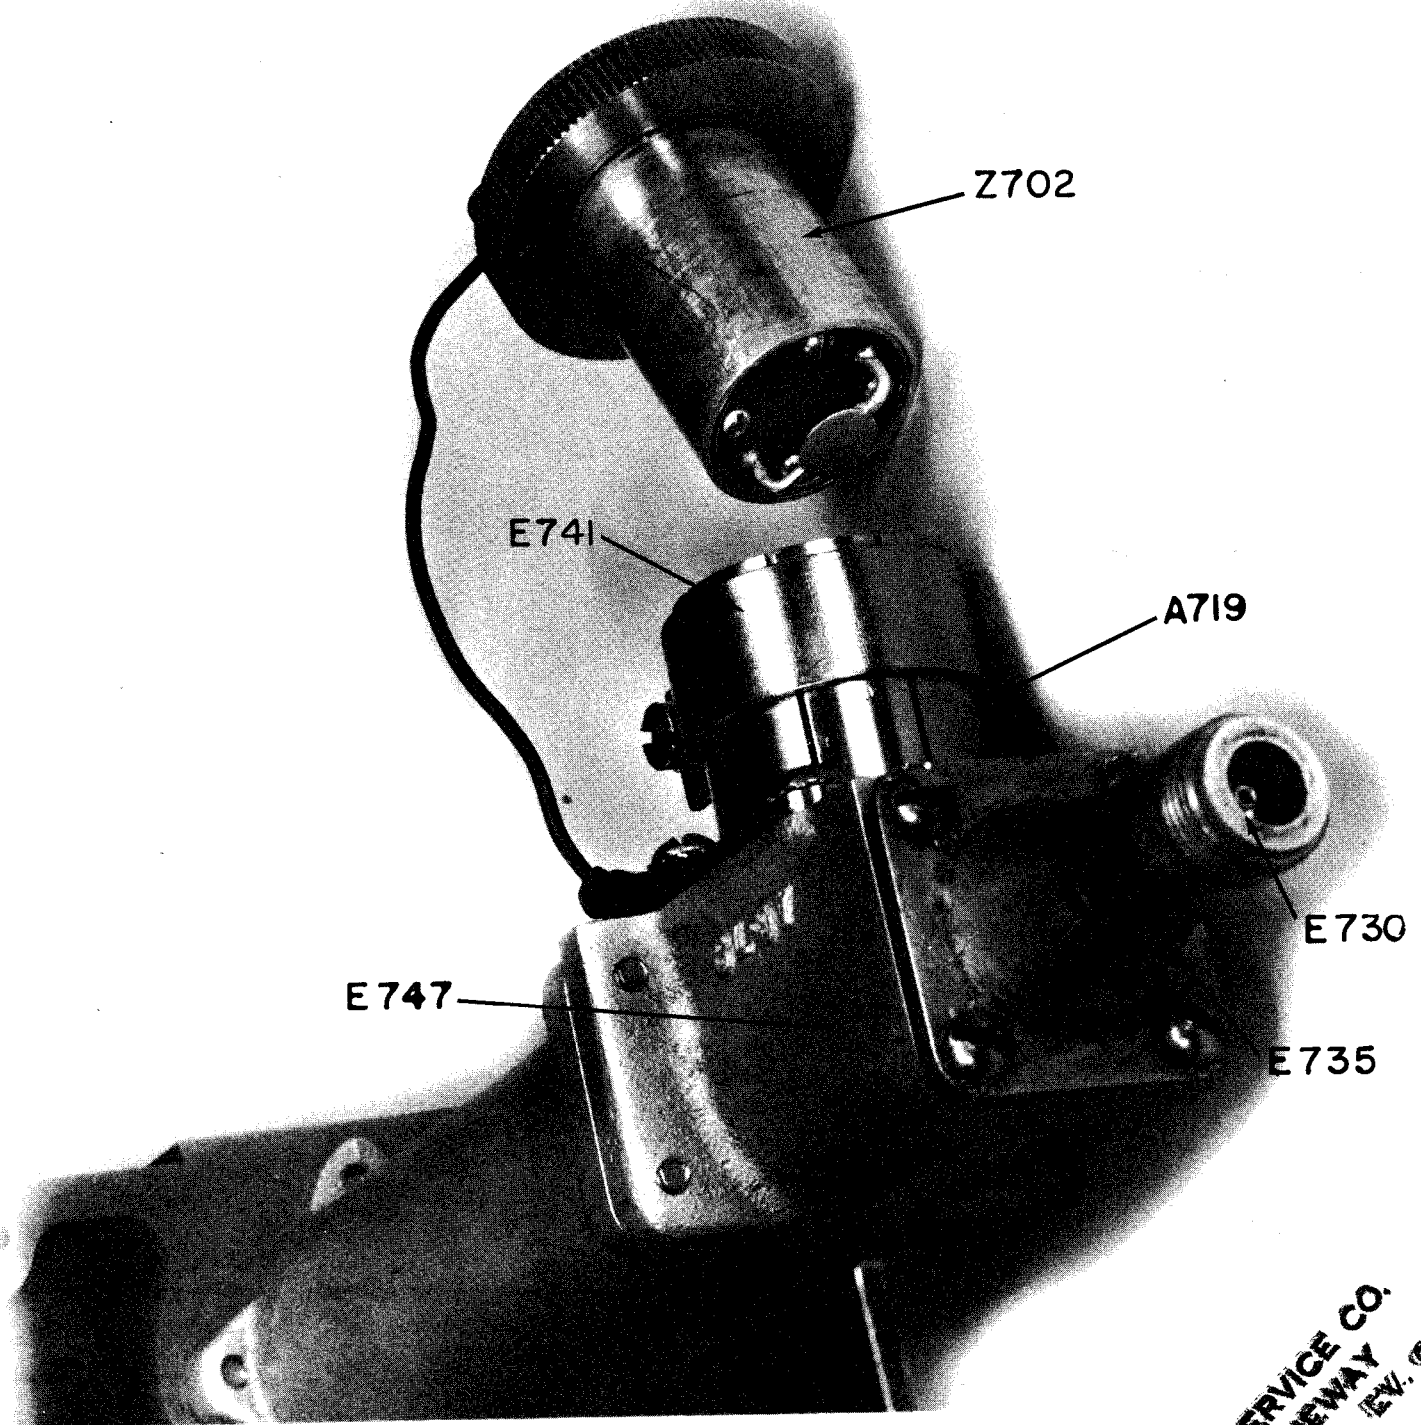

Figure 5-11. Removal of Reflectometer Z702
- Step 2. Carefully tune the transmitter and Coupler according to the bridge method of paragraph 2.b.(1) and (2) of this section and measure the insertion loss according to paragraph 2.b.(3); or carefully tune the transmitter and Coupler by the wattmeter method per paragraph 2.b(3)(a) and measure the insertion loss. When the Coupler is correctly tuned and within tolerance proceed with the reflectometer adjustment.
- Step 3. If the reflectometer is already installed, loosen the clamp E741 and pull the reflectometer out of its case. See figure 5-11.